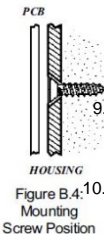

Figure B.4:
9. Mount the back cover using two screws and replace the PCB. Use ISO 7050 (ST3.5 x 22) or similar countersunk screws so that the screw head will not touch the PCB – see Figure B.4.